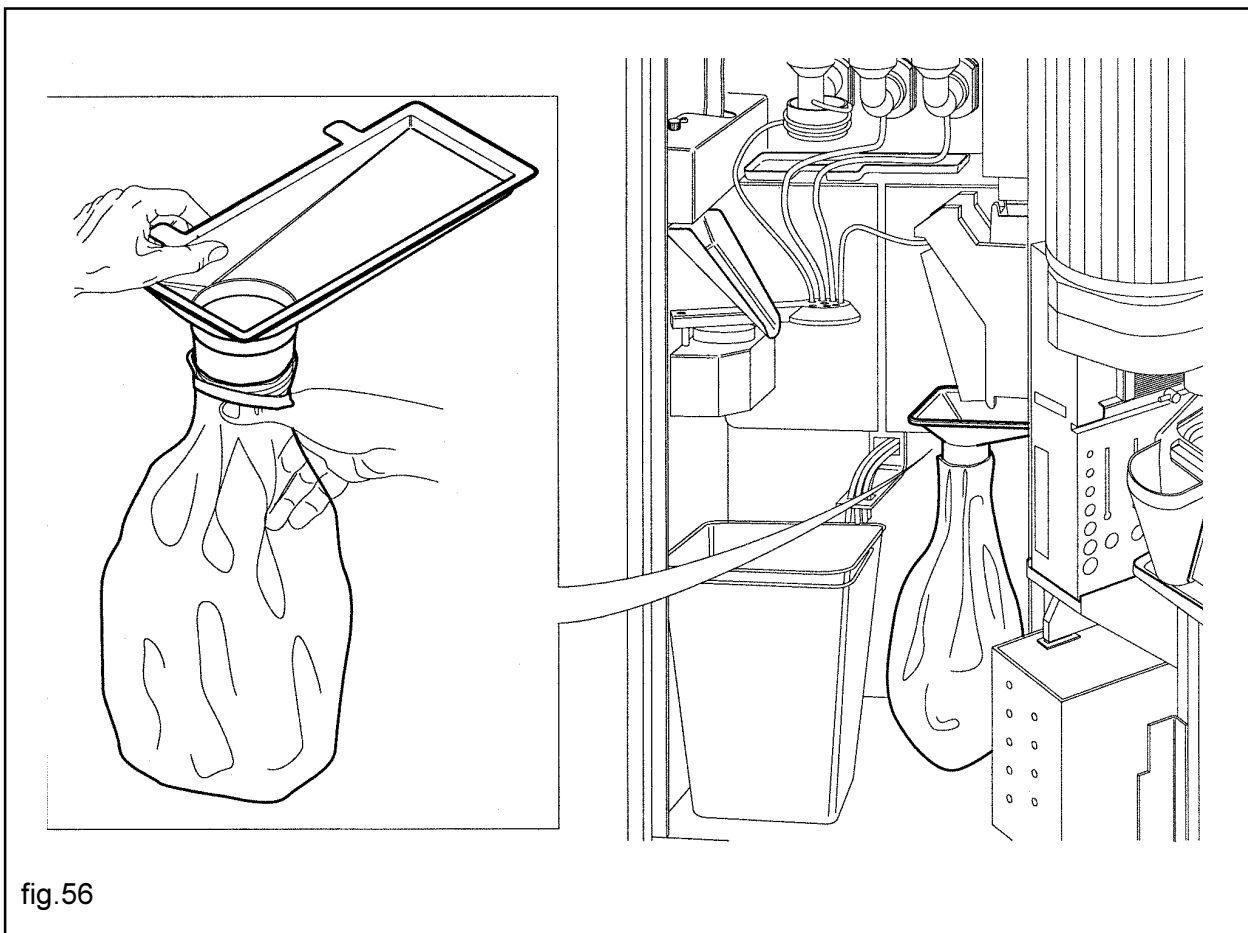

fig.56
- Insert the plastic bag, wrapping it around the chute and securing it with the spring (fig.56).